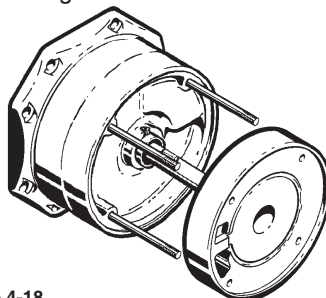

Figure 4-18
- c. Slide the channel ring into place with the water channel facing up. This time, however, orient the large inlet opening on the side opposite of the pump inlet. Refer to Figure 4-18.
- Slide the channel ring into place with the water channel facing up. This time, however, orient the large inlet opening on the side opposite of the pump inlet. Refer to Figure 4-18.